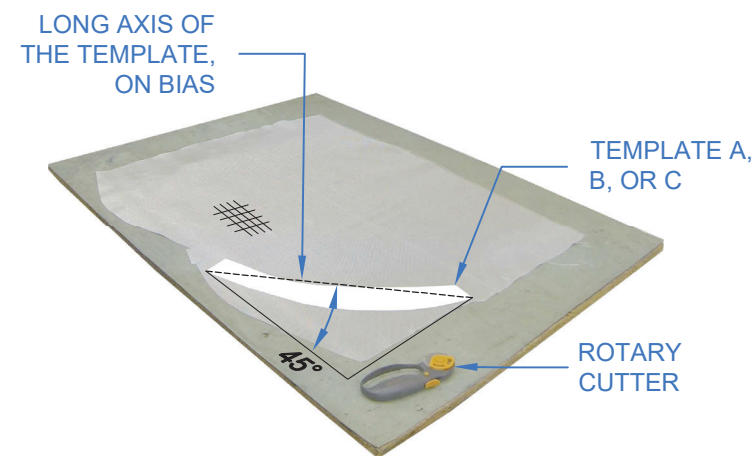

FIGURE 2: TEMPLATE ON BIAS
Step 3: Use the templates and a rotary cutter to cut out two examples of Ply B and two examples of Ply C from glass fabric. Align the long axis of the templates "on the bias" (45° to the weave, see Figure 2). Carefully roll up the plies after cutting to prevent distortion.